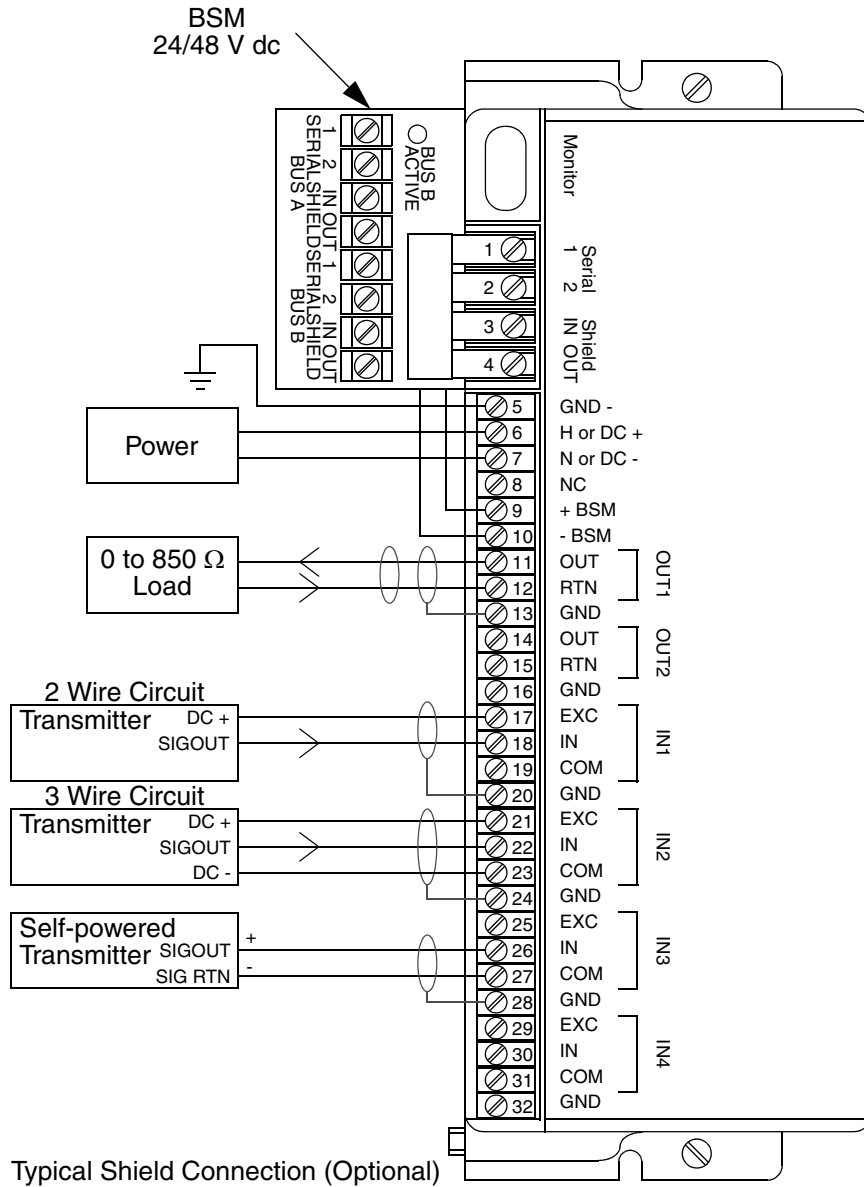
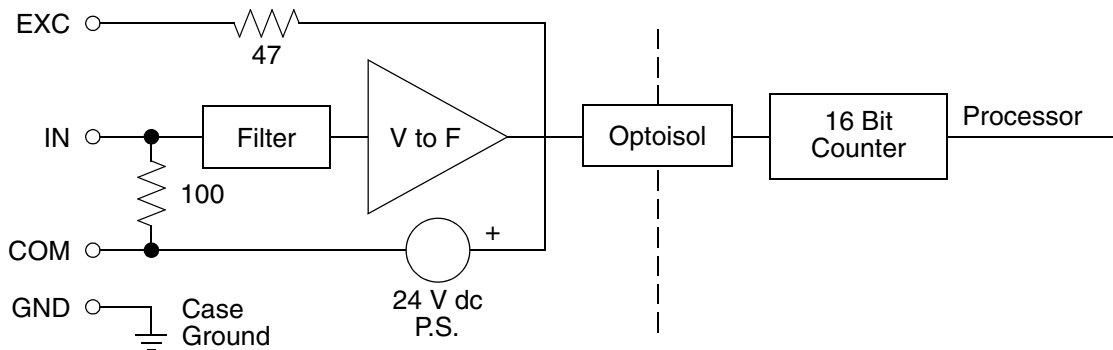
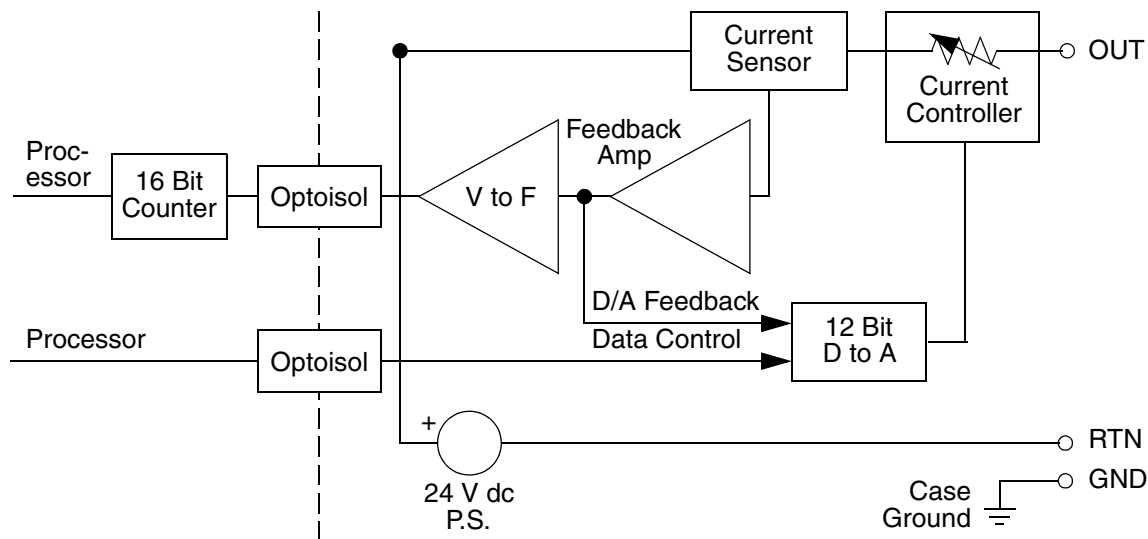

Figure 63. Terminal Connections for the 6231B 4 In/2 Out Current Source Analog I/O Block
Figure 64. Input Channel Schematic for the 6231B 4 In/2 Out Current Source Analog I/O Block
Figure 65. Output Channel Schematic for the 6231B 4 In/2 Out Current Source Analog I/O Block
The 6231B 4 In/2 Out Current Source Analog I/O Block, Figure 63, is available in two versions: one requiring a 115 V ac or 125 V dc power supply, and another requiring either 24 or 48 V dc power. They are the same in other respects. The block is used to interface to devices that provide or accept 4 to 20 mA current signals. The first two channels of the 6231B Block are outputs, numbered as outputs 1 and 2. The remaining four are inputs, numbered as inputs 1 through 4.
As Figure 63 shows, power is brought into the block at terminals 6 and 7. Terminal 6 is used for dc positive or ac hot. Terminal 7 is used for dc negative or ac neutral. These terminals can take up to one AWG #14 wire.
Each input has Excitation (EXC), Input (IN), Common (COM) and Ground (GND) connections. Figure 63 shows the types of connections that must be made for 2, 3, or 4 (self powered) wire transmitters. Figure 64 is a simplified schematic of an input channel.
An output circuit can drive a 4 to 20 mA current through a resistance of 0 to 850 ohms. The connection for outputs are shown in Figure 63. Figure 65 is a simplified schematic of an output channel.